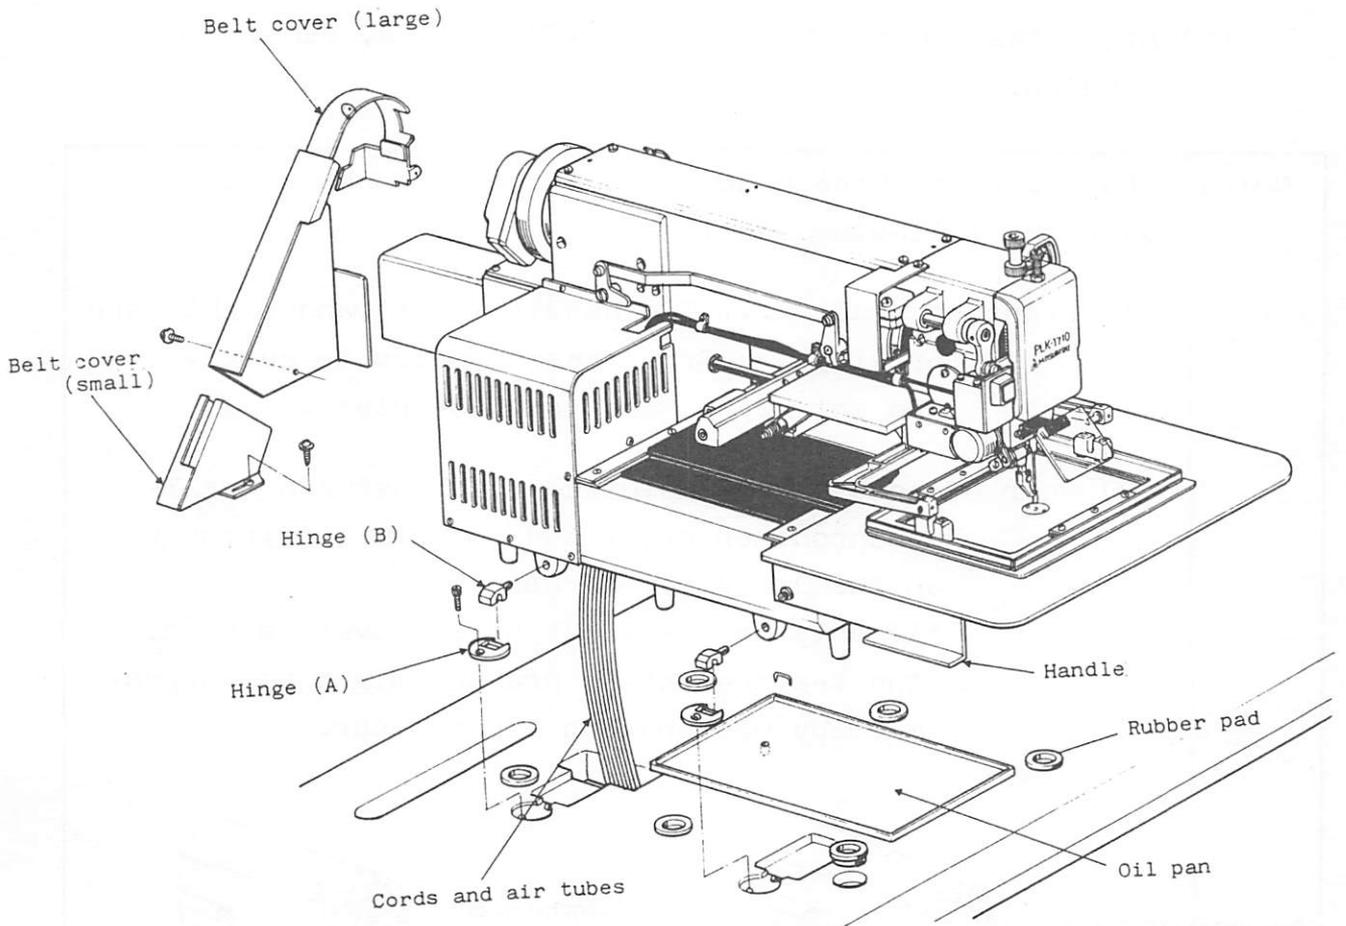

Fig. 4.3
4.2 Installing the machine head (see Fig. 4.3 and 4.4)